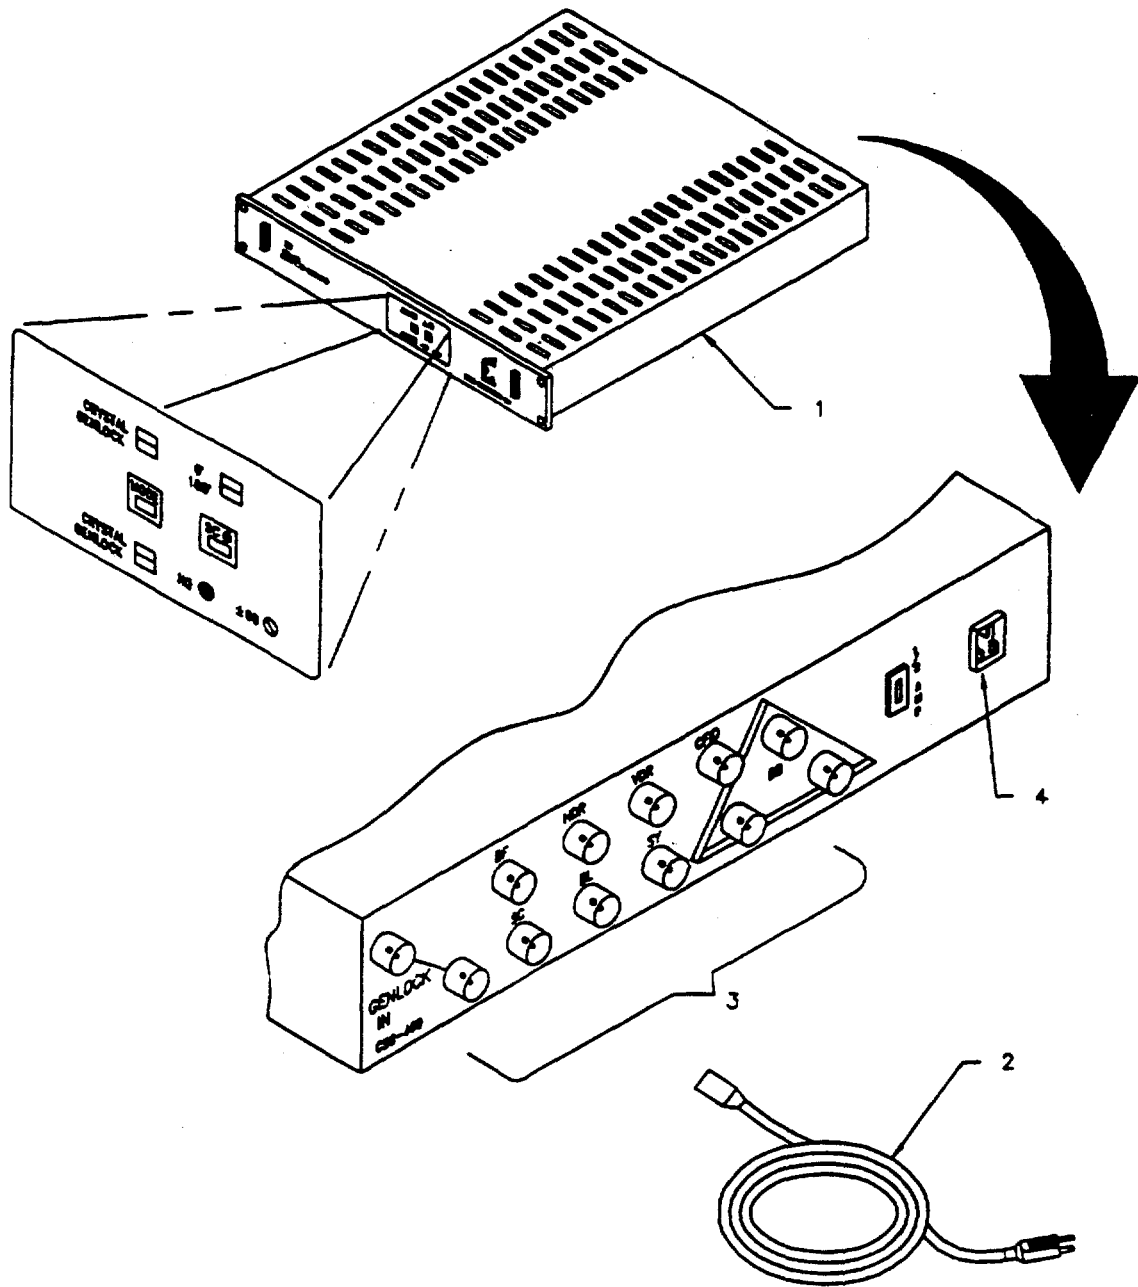

Figure 3-52. Removal and Replacement of CCTV Sync Generator
**3-100. REPLACE CCTV SYNC GENERATOR. (Figure 3-52).**